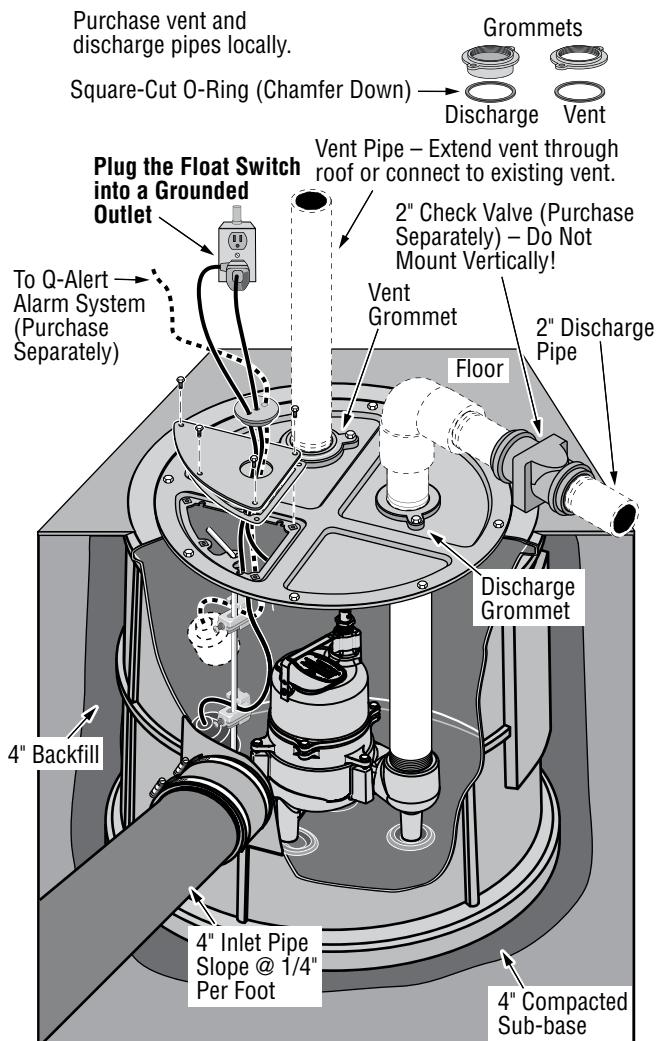

Figure 1 – Typical Installation
Installation Instructions. See Figure 1.
1. Dig the hole for the sewage basin and the sub-base. The hole must be deep enough so the finished floor is flush with the top of the basin. Refer to Figure 1, Page 3.
8. Install the 2" check valve in the horizontal portion of the discharge pipe. See Figure 1. Make certain the flow indicating arrow points away from the pump. This check valve will keep the water from running back into the basin when the pump is not running.